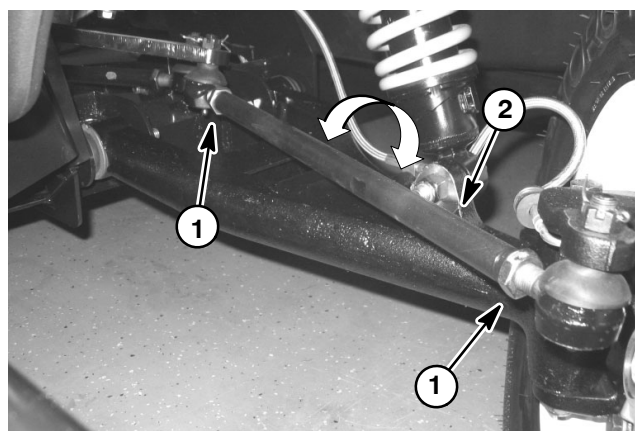

Figure 7
- A. Loosen jam nuts at both ends of tie rods (Fig. 7).